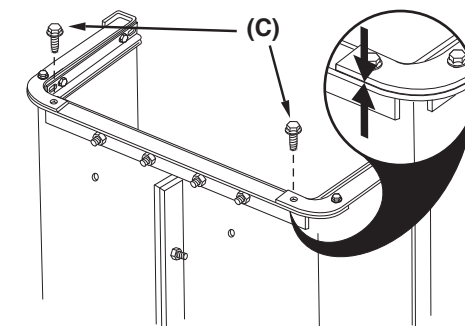

Figure 8
**STEP 8 (SEE FIGURE 8):** In the remaining holes, install two 5/16" x 3/4" self tapping bolts (C) until the angle brackets are drawn together leaving no gap between the angle brackets as shown in figure 8.